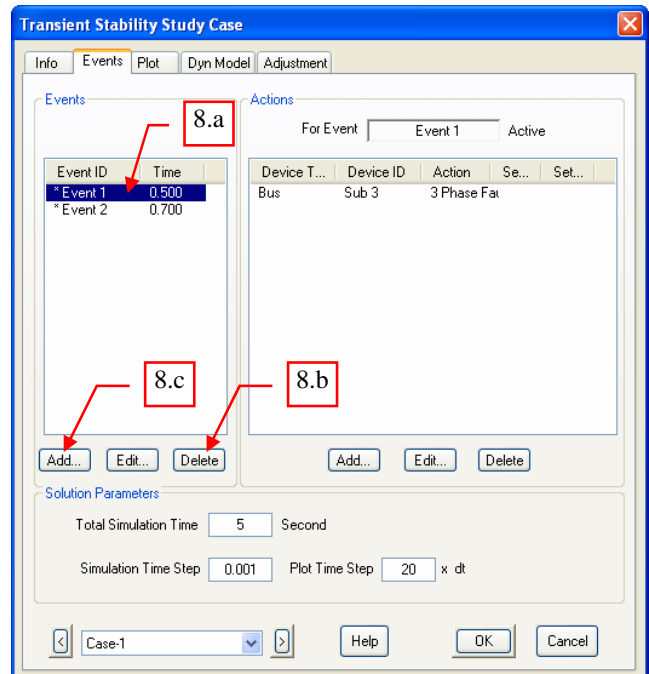

Fig. 4
8. On the “Events” tab, existing events and actions will be seen that were inherited from the “TS” study case copied in Step 4. Delete these and create new events and actions based on the illustration on page 2. See Fig. 4